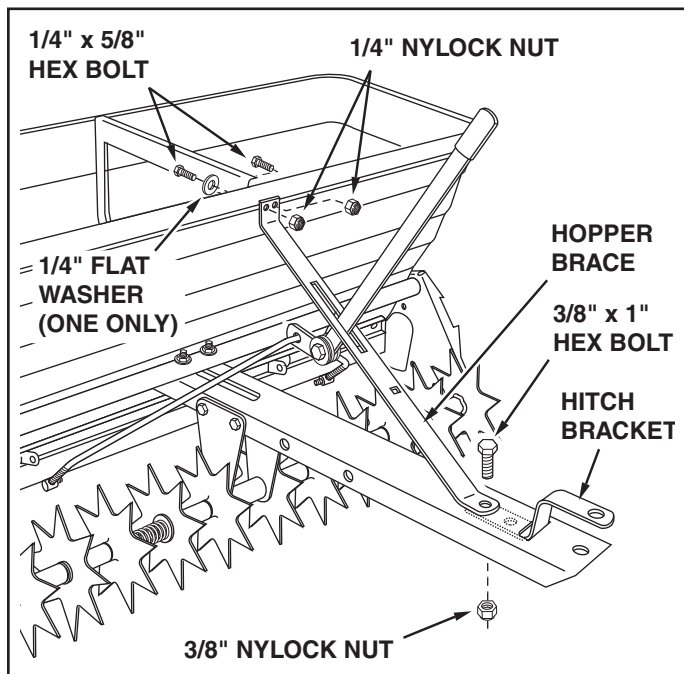

FIGURE 22
32. Attach the hopper brace to the hopper using two 1/4" x 5/8" hex bolts, one 1/4" flat washer and two 1/4" nylock nuts. **Do not tighten yet.** See figure 22.
33. Place the end of the hitch bracket with two holes down through the slot in the tongue. Attach the hopper brace to the top of the tongue and the hitch bracket to the bottom using one 3/8" x 1" hex bolt and one 3/8" nylock nut. **Do not tighten yet.** See figure 22.